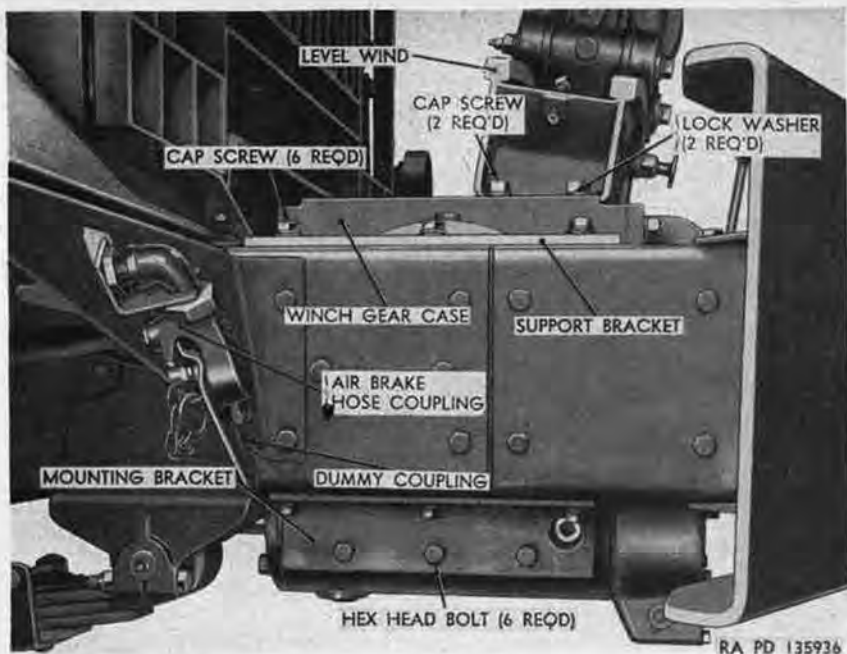

Figure 152. Installed view of front winch and level wind installed from right side of truck.
- (3) *Install front winch level wind (vehicles equipped with front winch only).* Install front winch level wind (fig. 152) (par. 260).